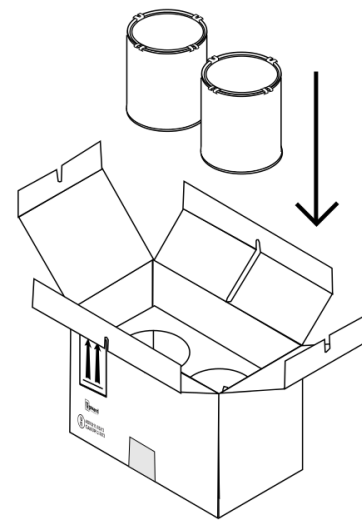

Figure 4
6. Place cans into the inserts. (See Figure 4)